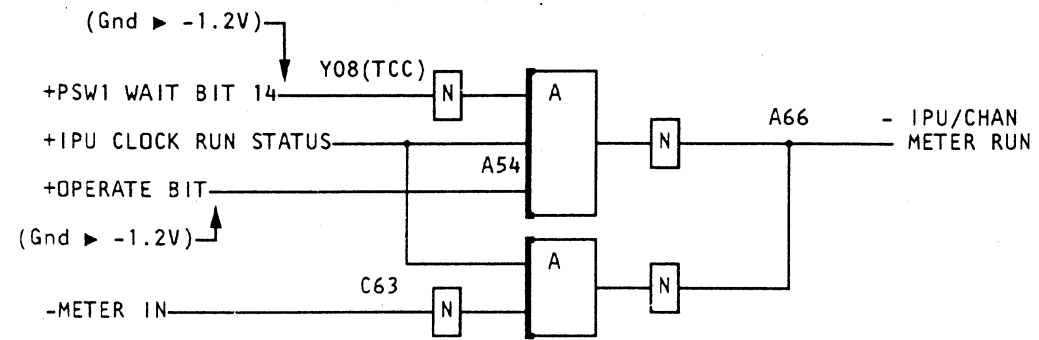

FIGURE 2
- Figures 2, 3, 4, and 5 give more wiring detail of cards shown in Figure 1.